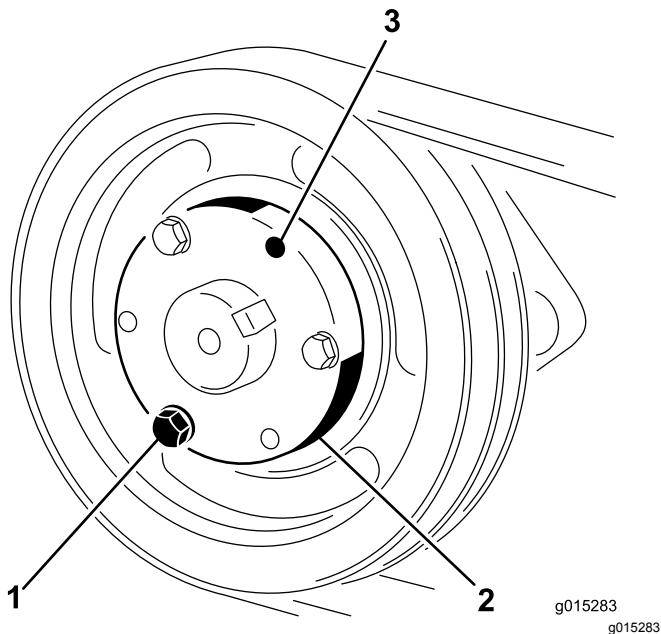

Figure 26
1. Remove the bolts and lockwashers 1 at a time and screw them into the adjoining holes (Figure 26).